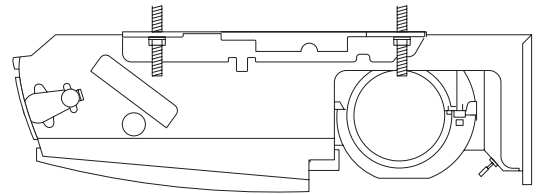

Fig. 3-75
- c) Tighten the 2 hexagonal nuts on each suspension bolt to suspend the indoor unit as shown in Fig. 3-75.